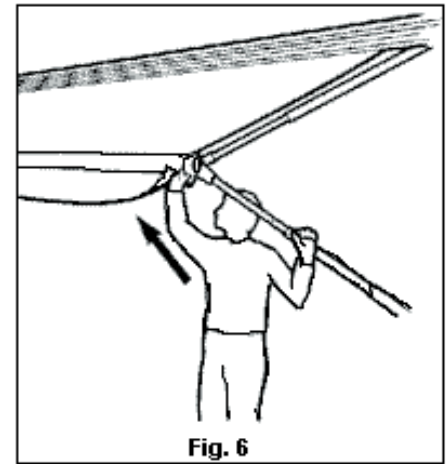

Fig. 6
5. Raise the awning to the desired height by releasing the snap stud on the main arm and pushing up and outward on the roller assembly (Fig. 6).